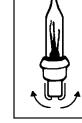

Fig. 11
4. Carefully insert new bulb into socket and push down Base Lock until it snaps into place (Figure 11).